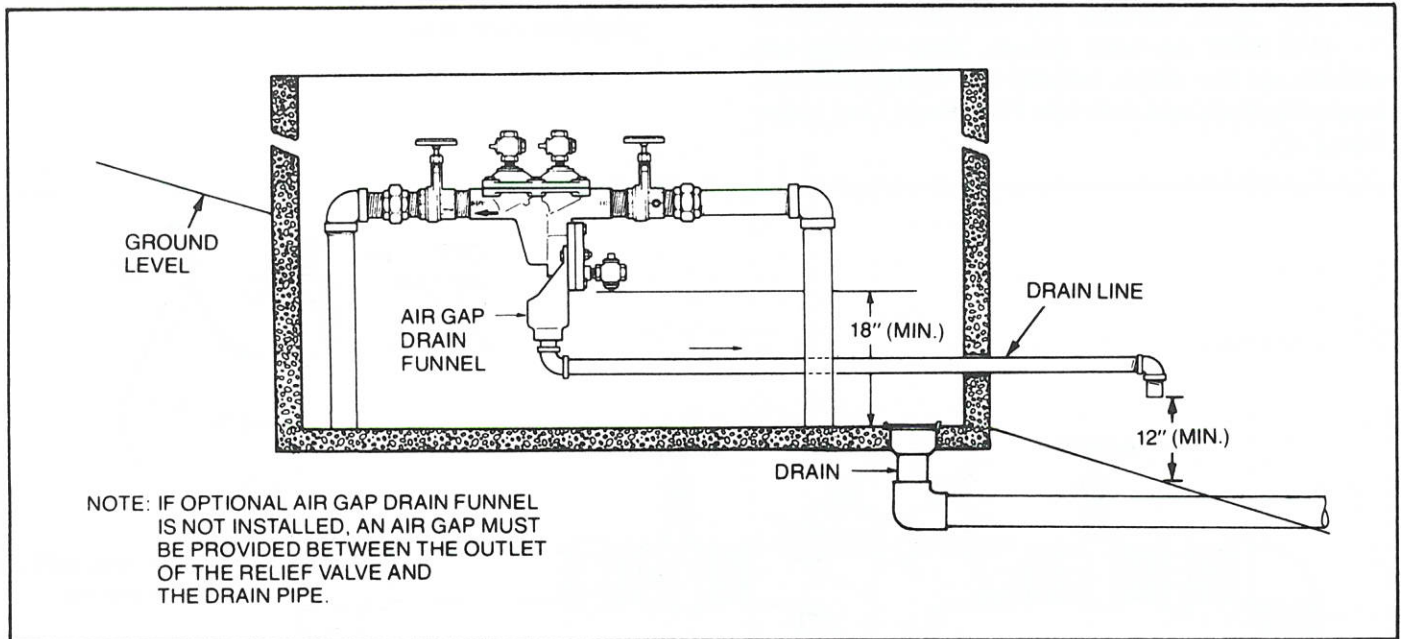

Figure 5. MODIFIED PIT INSTALLATION
E. MODIFIED PIT INSTALLATION (See Fig. 5)